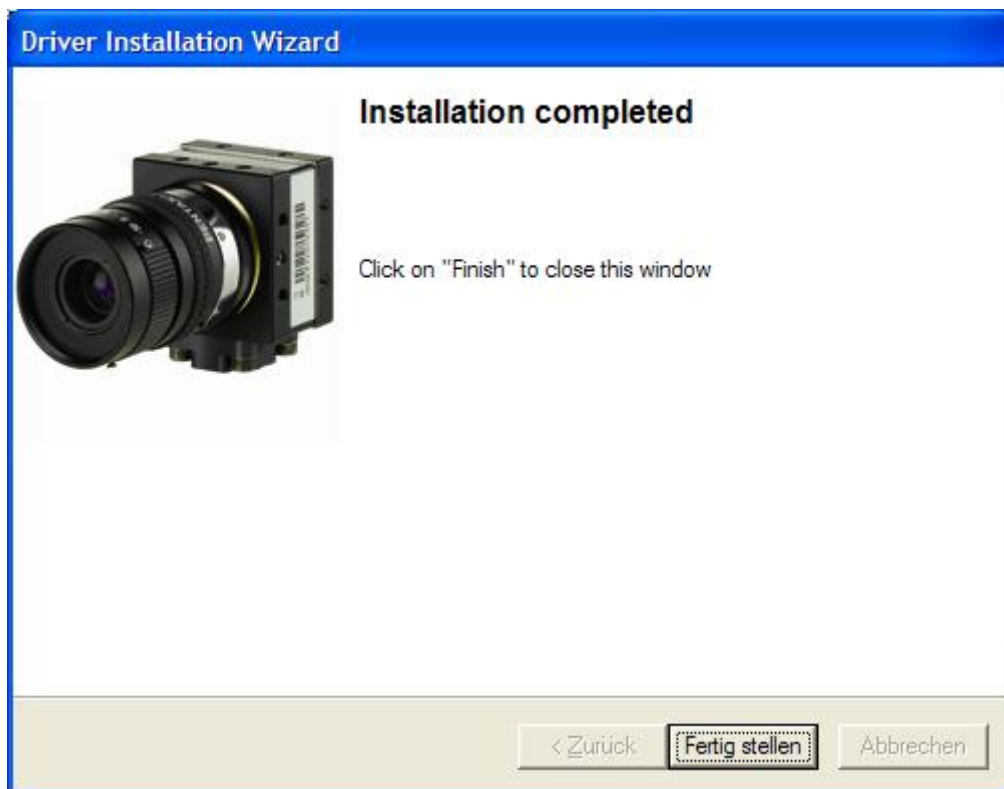

Figure 13: Driver Installation, Step 3
- At the end of the installation you will receive a message (Figure 13). Click on „Finish“ or “Fertig stellen”.